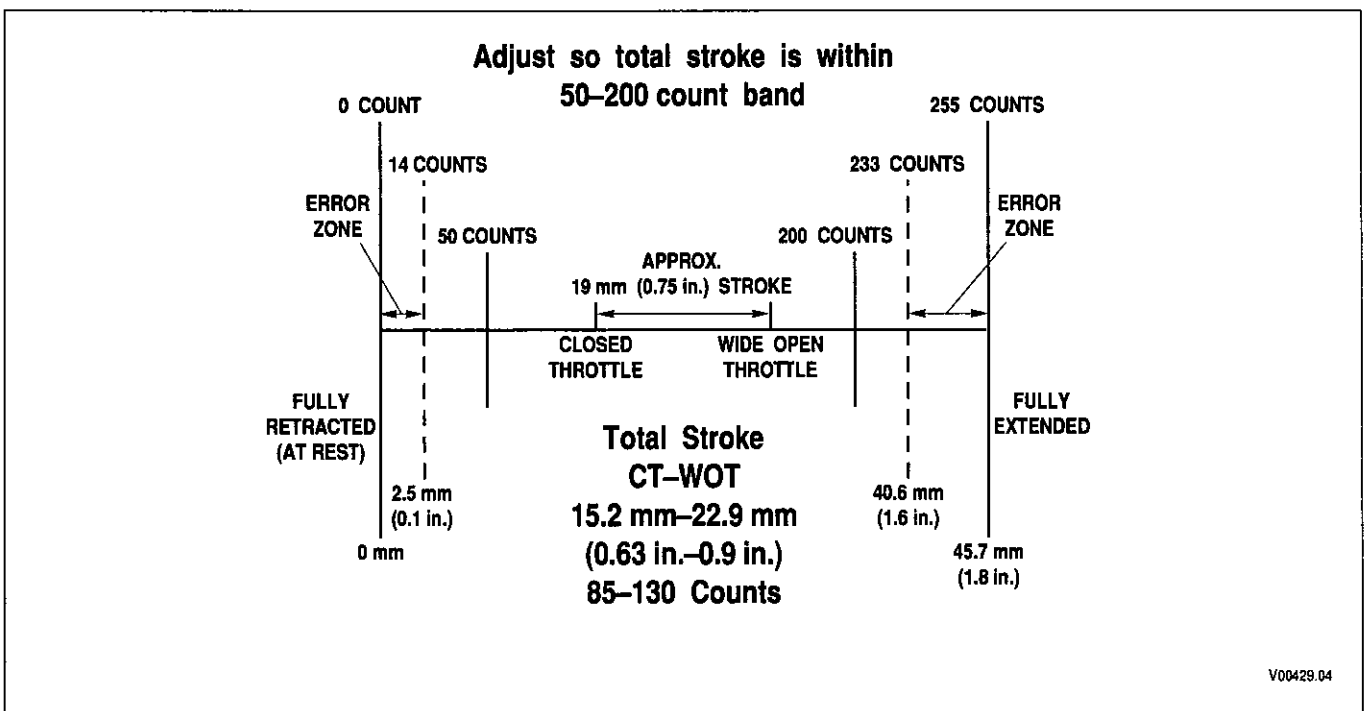

Figure F-2. Throttle Position Determination Diagram
2. Each position gives a different voltage. The ECU then converts the voltage to counts. Each count corresponds to approximately 0.179 mm (0.007 inch) of throttle sensor movement. Figure F-2 diagrams the counts and throttle movement relationship.
NOTE: After replacing or adjusting the throttle position sensor linkage, the technician should use the diagnostic tool to clear the throttle calibration. Go to the DDR selection menu and locate ACTION REQUESTS. Select RESET THROTTLE CALIBRATION and ENTER to set the 0 percent throttle counts. After the idle counts are established, the throttle should be moved to the Full position to establish the full or Wide Open Throttle (WOT) position (100 percent). The full throttle counts will be the same as the idle counts until the throttle is moved. The full throttle counts are set when maximum travel is reached so stopping before actual full throttle will set the 100 percent point artificially low. Refer to Figure F-2 for proper counts and percentage. Refer to Figure F-3 for illustration of throttle position adjustment.
When properly installed by the equipment manufacturer, the TPS should not require adjustment. Confirm that the throttle sensor is installed to manufacturer specifications before adjusting the throttle position sensor. The idle count should be 50 or higher and full throttle count 200 or lower. The TPS is self-calibrating meaning there is no optimum closed throttle or wide open throttle count value. As long as the counts are within the 50 to 200 range, the TPS is set properly. Total stroke of 85–130 counts must be maintained. Watch the movement of the throttle sensor as the controls move it through its full stroke. Be sure there is no misalignment or obstruction to smooth movement through the full stroke. Make certain the idle and full throttle positions are not in the error zones (refer to Figure F-2). The error zones occur when the idle position is less than 14 counts, or when the full throttle position is more than 233 counts. When idle or wide open throttle positions are in the error zones, codes 21 12 and 21 23 occur, respectively. These codes cause the transmission to shift as if the throttle is fully depressed (100 percent throttle) affecting shift quality and causing decreased fuel efficiency. Code 21 XX may be caused by a short or open circuit in the chassis harness or by incorrect voltages. If this occurs, refer to Code 21 XX chart.